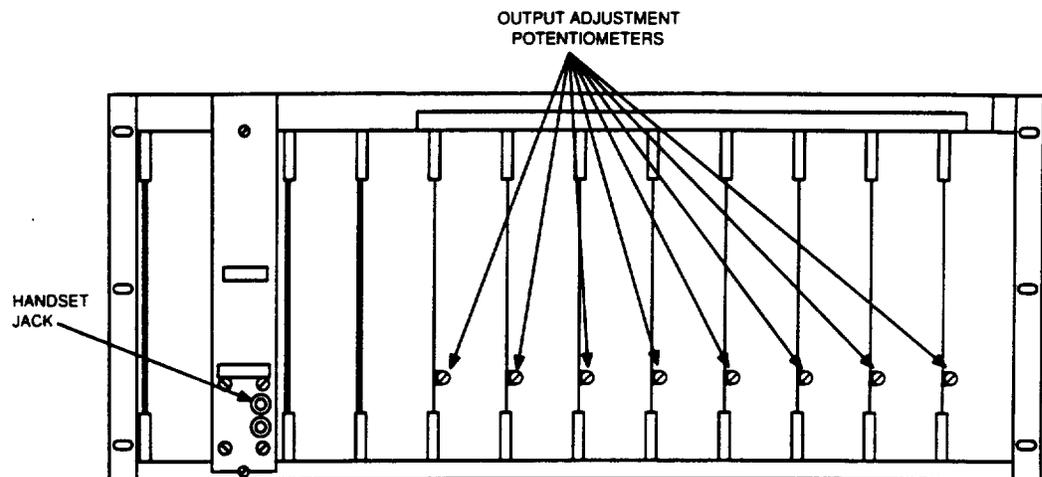

Figure 1. 13A Announcement System
1.07 The 13A is a recorded announcement machine that has the capability of one to eight channels (Figure 1). Each channel announces only one recording. The recording is recorded on a UD4, UD6 or UD7 message module circuit pack. Each announcement can be adjusted in 3-second lengths from 3 to 12 seconds for the UD6, from 3 to 24 seconds for the UD4 and from 3 seconds to 2 minutes, 54 seconds for the UD7.